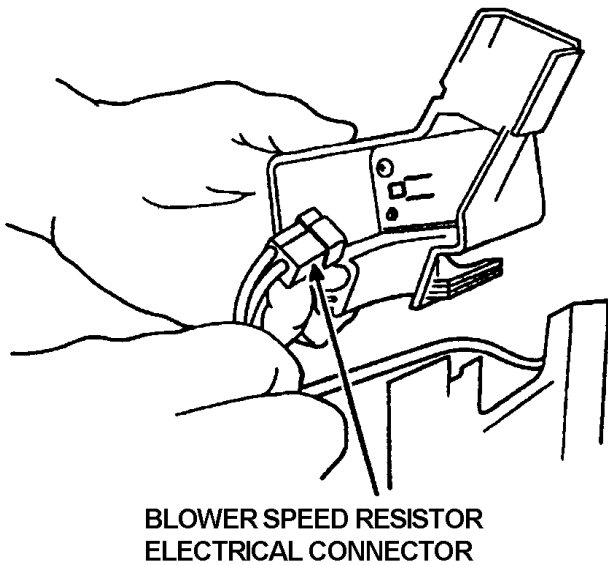

Figure 42 Electrical Connector in Resistor Pack
4. Disconnect the electrical connector from the resistor pack (Figure 42).
2. Connect the electrical connector to the resistor pack (Figure 42).